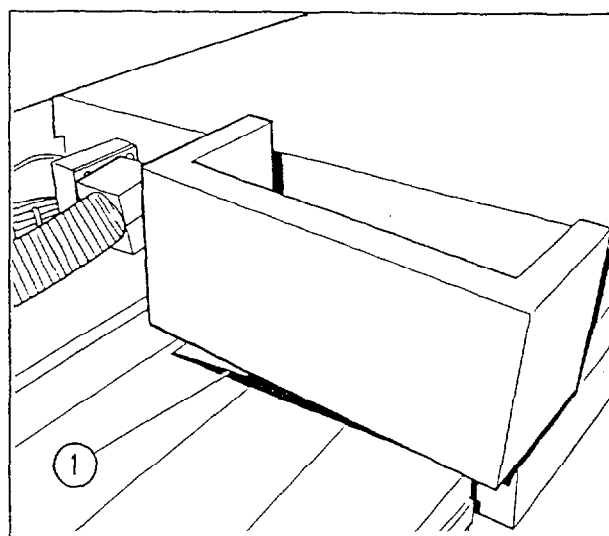

Fig. 2
- ◀ • Remove the support box (1/ Fig.2) above the recess of the transport pallet and set it aside for further use.